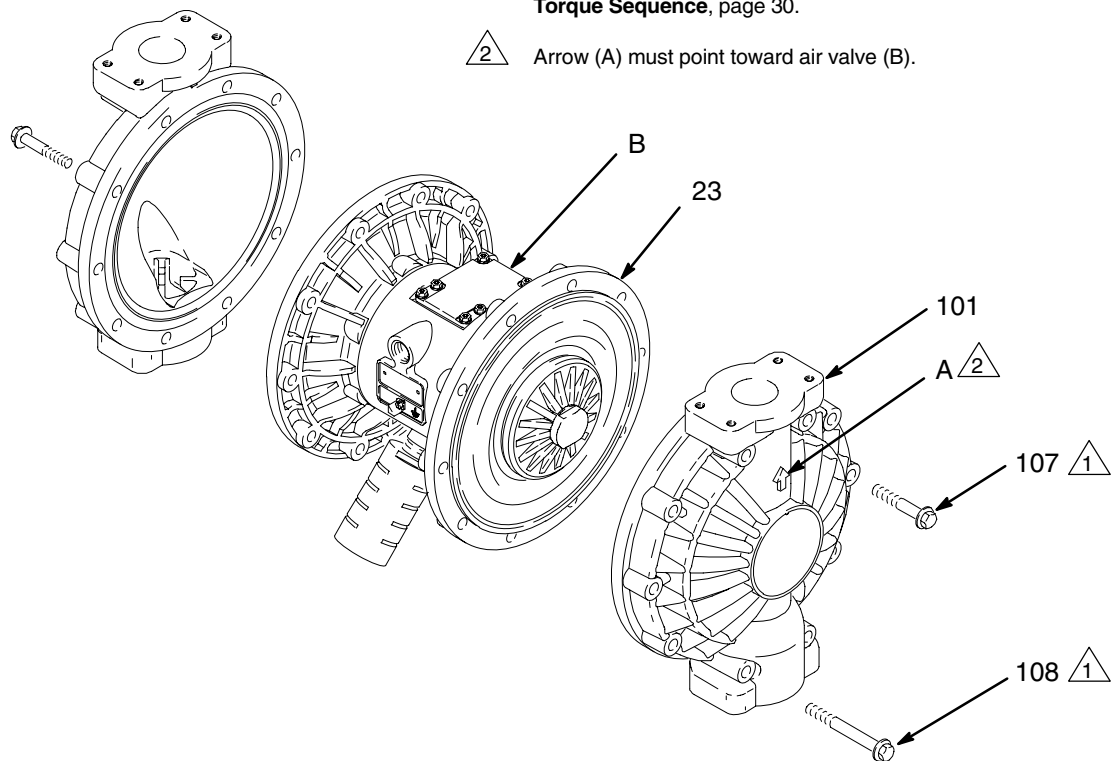

Fig. 12
3. Using 13 mm socket wrenches, remove the screws (107 and 108) holding the fluid covers (101) to the air covers (23). Pull the fluid covers (101) off the pump. See Fig. 12.
4. Apply medium-strength (blue) Loctite® or equivalent to the threads of the fluid-side plates (105). Hold one of the outer plates with a wrench, and torque the other outer plate to 20 to 25 ft-lb (27 to 34 N•m) at 100 rpm maximum. Do not over-torque.
5. Align the fluid covers (101) and the center housing (1) so the arrows (A) on the covers face the same direction as the air valve (B). Secure the covers with the screws (107 and 108), handtight. Install the longer screws (108) in the top and bottom holes of the covers. See Fig. 12.
6. First, torque the longer screws (108) oppositely and evenly to 190 to 220 in-lb (21 to 25 N•m), using a 13 mm socket wrench. Then torque the shorter screws (107). See **Torque Sequence**, page 30.